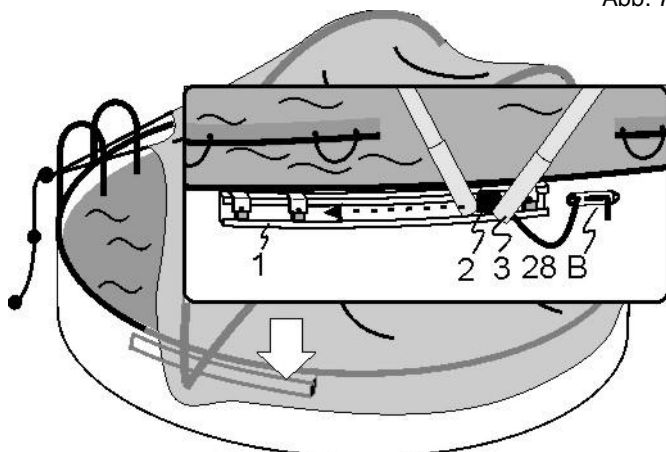

Abb. 7.4
- Put out the rope (4) from the fastener (28/B). Push plastic block (2) to the other side of "C" profile (1) (fig. 7.4)